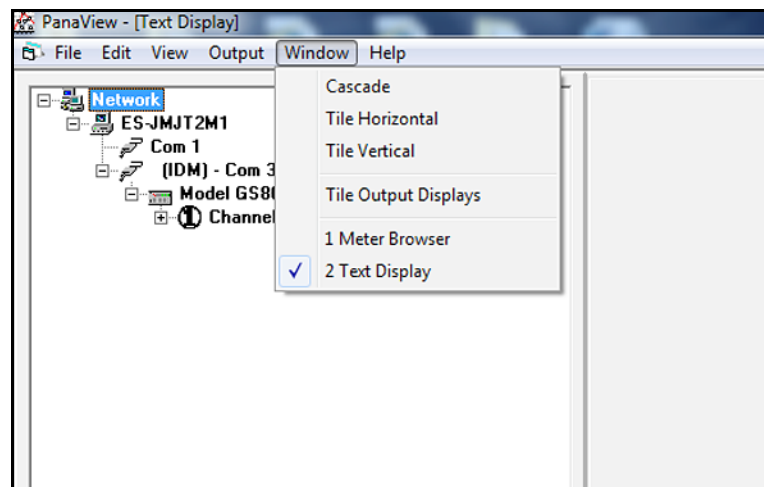
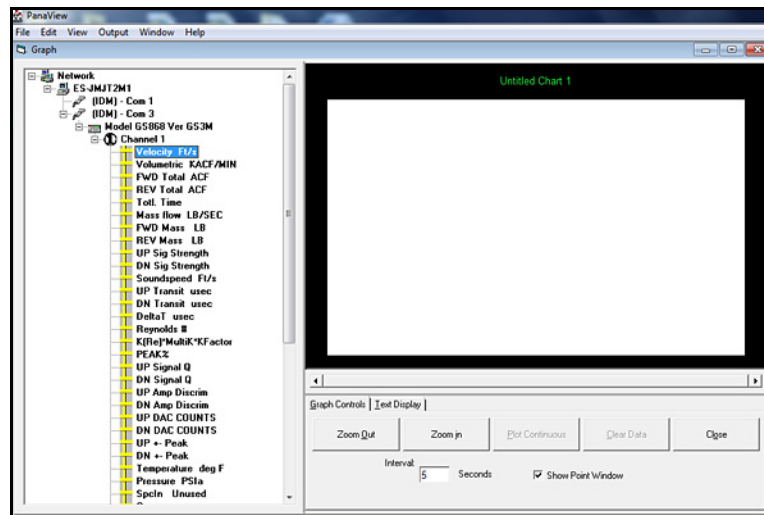

Figure 59: The Window Menu
Figure 63: The Graph Window
- To rearrange the two open windows, open the “Window” menu (see Figure 59 below).
Note: After resizing or removing any of the multiple text screens, the default tiled layout may be restored by opening the "Window" menu (see Figure 59 on page 49) and clicking on the "Tile Output Displays" option.
3. Arrange the multiple "Text Display" windows as desired via the "Window" menu (see Figure 59 on page 49).
3. Using the “Window” menu, as shown in Figure 59 on page 49, arrange the open windows in the desired format. Figure 63 below shows the “Graph” window in its maximized (full-screen) size.
The “Graph” window shown in Figure 63 on page 54 has three panes:
2. After you have finished creating the desired graphs, click the [Close] button in the lower right pane of the "Graph" window (see Figure 63 on page 54).